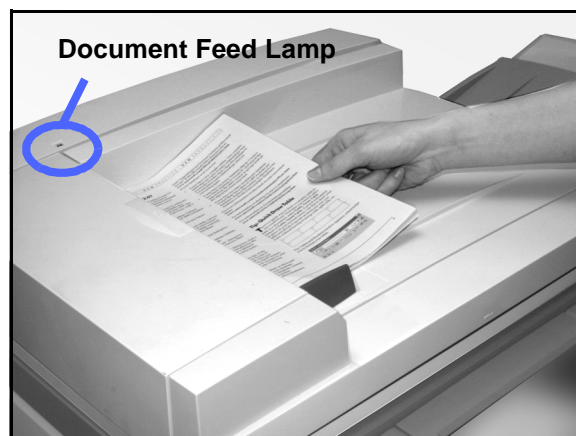

Figure 5: Placing a document in the DADF Feeder Tray
- If you have a Duplex Automatic Document Feeder, place the document face up into the DADF Tray, as in Figure 5. The Document Feed Lamp lights when the document is in the correct position. Ensure that the paper guide is against the original document.